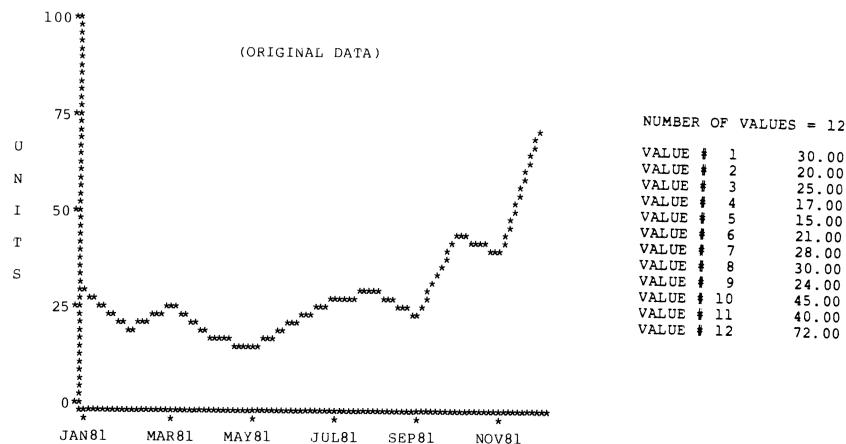
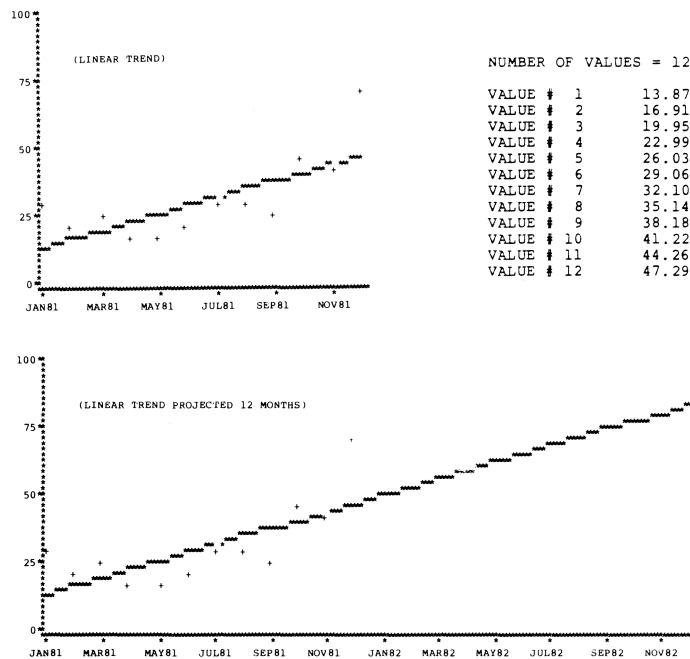
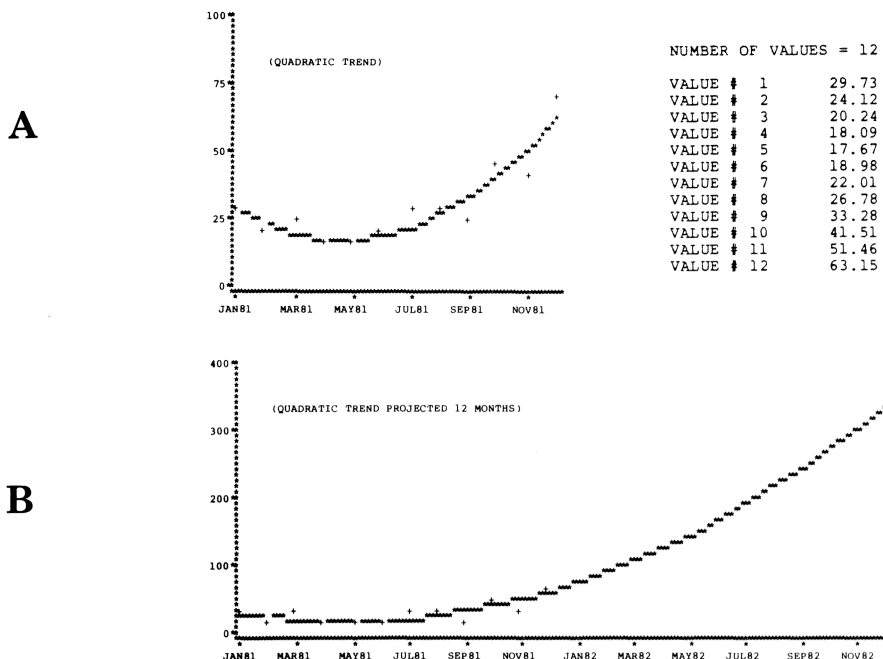

Figure 2-1. Base Data for Trend Examples.
Figure 2-2. Linear Trends.
Figure 2-3. Quadratic Trends.
In Figures 2-2, 2-3, and 2-4, two line charts are shown for each trend type. In the first chart of each set, a trend (depicted by a solid line) is fitted to the original data, which is shown as plus signs at the data points. In the second chart, the trend is projected for 12 months.
Linear (straight line) — The data for the two charts shown in Figure 2-2 was obtained by applying a linear trend to the sample sales data in Figure 2-1.
Quadratic (parabolic curve) — The data for the two charts shown in Figure 2-3 was obtained by applying a quadratic trend to the sample sales data in Figure 2-1. Note how the additional data in the projection (B) causes a change of scale and a perceived change in the shape of the curve.